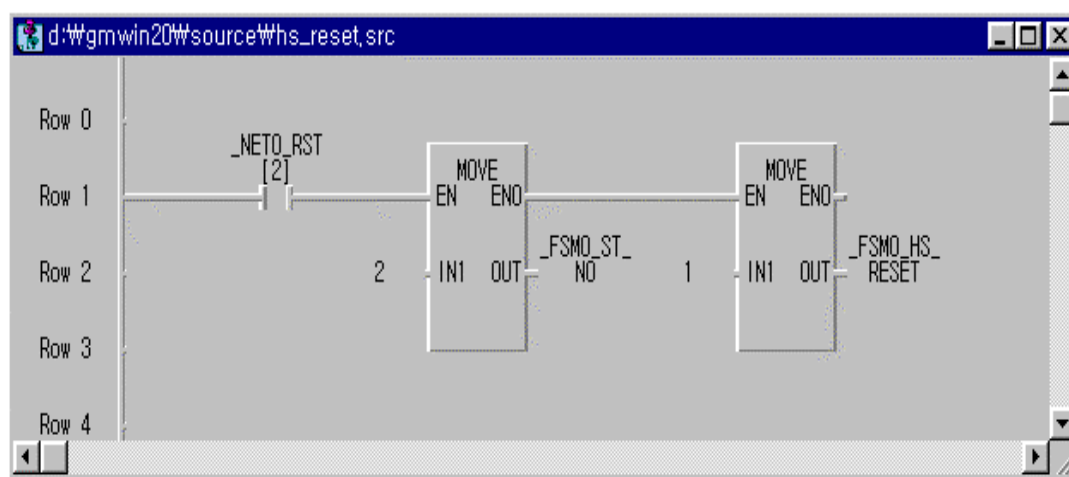

Fig. 6.6.5(A) Ex. of program using _FSMx_HS_RESET
Fig. 6.6.5(A) is an example of program that recovers *high speed link* flag to normal state when remote I/O station is recovered after power failure. In the figure, `_NET0_RST[2]` is a flag that is set to 'On' when power of station 2 becomes down and recovered during performing communication between communication module mounted in slot 0 and station 2 of other station(remote station). If power becomes down and recovered in remote station, `_HS_MODE` is set to 'Off' and link-trouble maintains 'On'. To clear this information, enter appropriate remote station into `_FSMO_ST_NO`, and set `_FSMO_HS_RESET` FLAG to 'On'. Then, `_HS_MODE` is set to '1' and link-trouble is set to 'Off'. If link-trouble maintains '1' after recovering power failure, this means that remote I/O has error, so user can handle it according to system configuration.